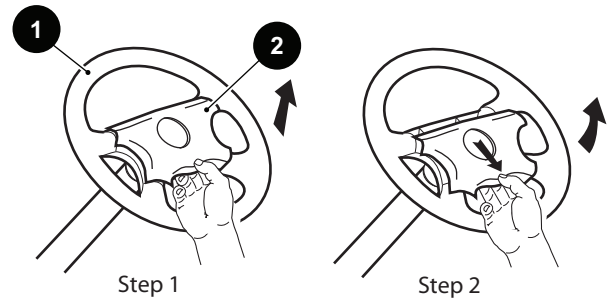

Figure 21 Steering Wheel Cover Removal
From the front side of the steering wheel (1), remove the steering wheel cover (2) or clipboard (3) by first pulling straight up on the bottom of the steering wheel cover or clipboard to release the two bottom retaining tabs. Then, using thumb for leverage as shown, reach from behind steering wheel with fingertips to first pull down, and then push up to release the two top steering wheel cover or clipboard retaining tabs (Ref. Figure 21).
Inspect the four retaining tabs on the steering wheel cover (2) or clipboard (3) for white stress lines (Ref. Figure 21). If stress lines are present, replace clipboard. Install by carefully pressing, first the top two, then the bottom two retaining tabs into the matching slots in steering wheel.